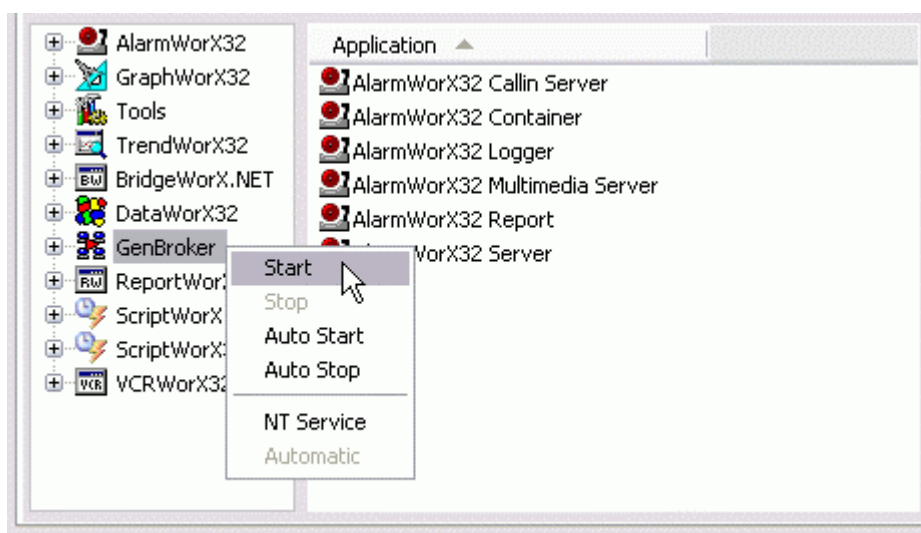

Figure 4.18. Starting the GenBroker Server on the Server Node
3. In the tree control, right-click on **GenBroker** and select **Start** from the pop-up menu, as shown in **Figure 4.18**. This activates the GenBroker Server.